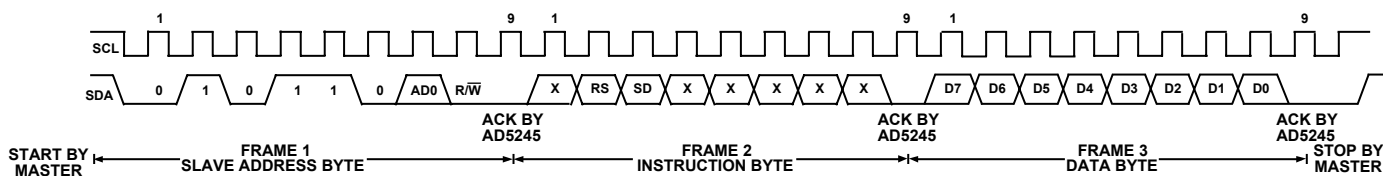
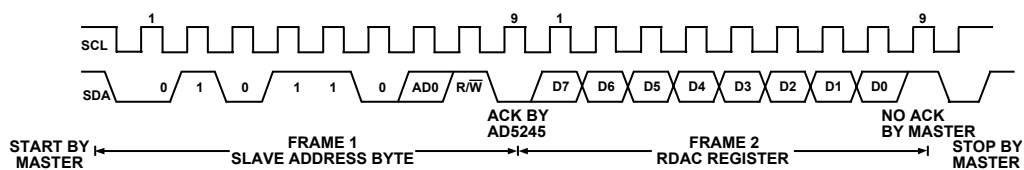

Figure 37. Writing to the RDAC Register
Figure 38. Reading Data from a Previously Selected RDAC Register in Write Mode
1. The master initiates data transfer by establishing a START condition, which is when a high-to-low transition on the SDA line occurs while SCL is high (see Figure 37). The following byte is the slave address byte, which consists of the 7-bit slave address followed by an R/\overline{W} bit (this bit determines whether data will be read from or written to the slave device).
4. In the read mode, the data byte follows immediately after the acknowledgment of the slave address byte. Data is transmitted over the serial bus in sequences of nine clock pulses (a slight difference with the write mode, where there are eight data bits followed by an acknowledge bit). Similarly, the transitions on the SDA line must occur during the low period of SCL and remain stable during the high period of SCL (see Figure 38).
5. When all data bits have been read or written, a STOP condition is established by the master. A STOP condition is defined as a low-to-high transition on the SDA line while SCL is high. In write mode, the master will pull the SDA line high during the tenth clock pulse to establish a STOP condition (see Figure 37). In read mode, the master will issue a No Acknowledge for the ninth clock pulse (i.e., the SDA line remains high). The master will then bring the SDA line low before the tenth clock pulse which goes high to establish a STOP condition (see Figure 38).